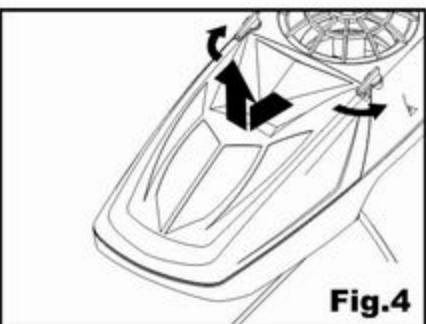

Fig.4
1. Turn red LATCHES on vehicle BATTERY DOOR, lift door up at rear and remove. (Figs.4)